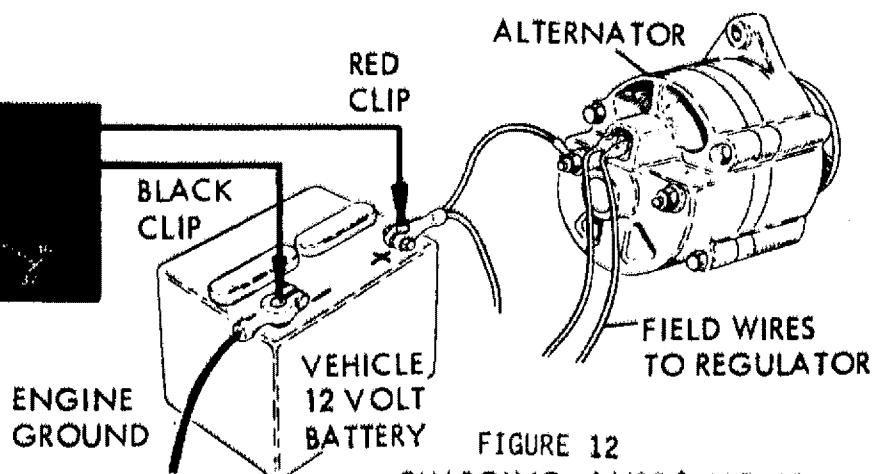

FIGURE 12
5. Start the engine. Operate at a fast idle (approximately 1500 RPM). Open the starter amps shunt. Note the battery charging voltage. The meter should read over 12 volts and slowly rise to regulated voltage in a few minutes (15 1/2 volts maximum). (Figure 12)
6. Move the Center Slide Switch to the CHARGING AMPS position and note the alternator charging rate compared to vehicle specifications. (Figure 12) Shortly after starting, an alternator in good condition should charge from 50 to 80% of its rated capacity, and slowly decrease as the battery regains its charge. The charging voltage will slowly rise as the ampere rate decreases and maximum regulated voltage is obtained.
9. If charging voltage DOES NOT slowly INCREASE, this may indicate a defective alternator. Rotate the Function Switch to the alternator position, turn lights on and operate the engine at approximately 1200 RPM. Read the alternator scale. A reading in the gray defective zone indicates defective diodes or windings in which case the alternator diodes and windings are functioning properly. (Figure 12).